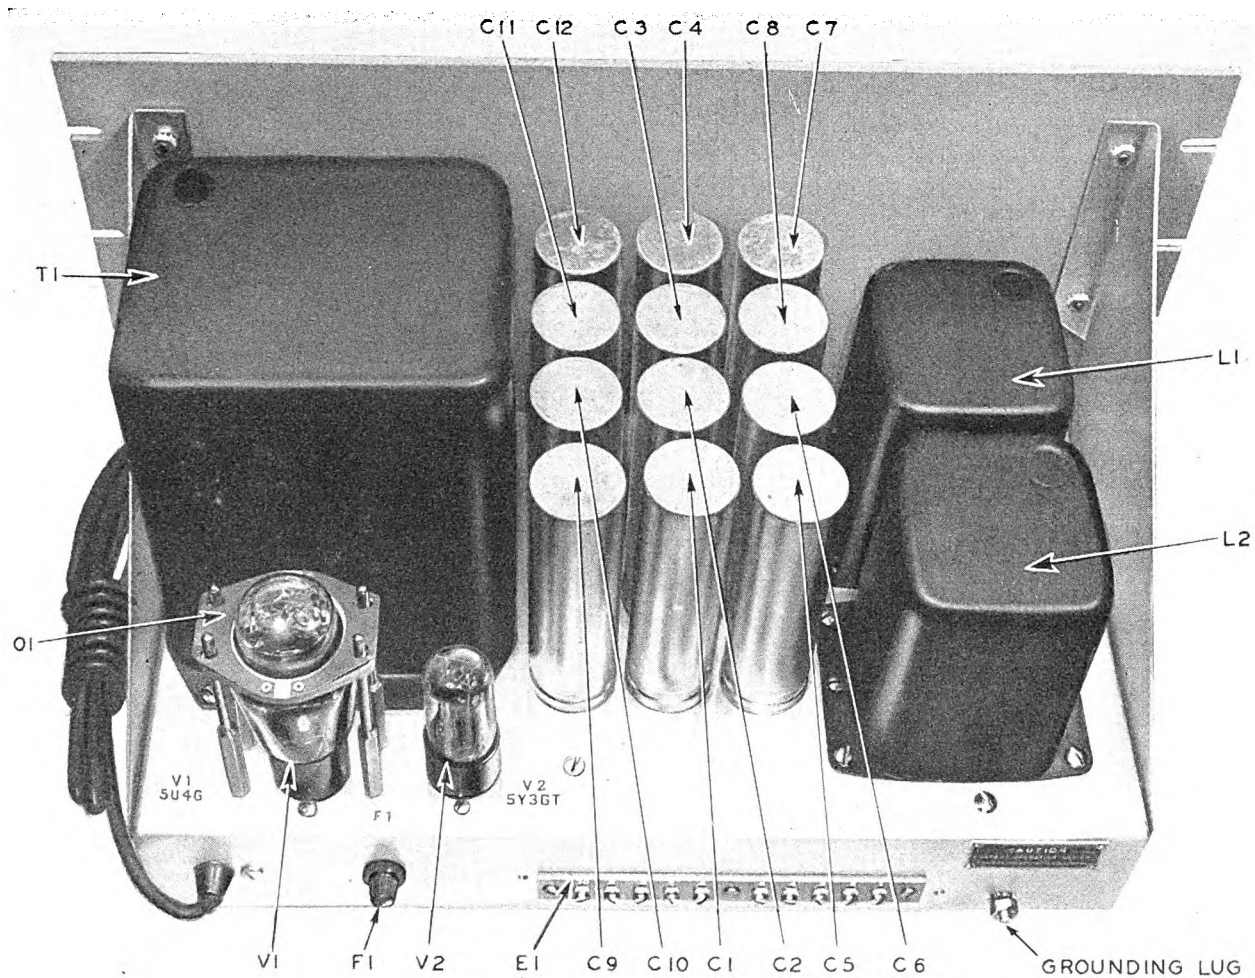

Figure 8. Power Supply Unit RA-74-D, top rear view.
c. POWER SUPPLY UNIT RA-74-D (figs. 8 and 9). The chassis attached to the front panel mounts all components of the power supply. Power input and output connections are made to the terminals on the rear of the chassis.